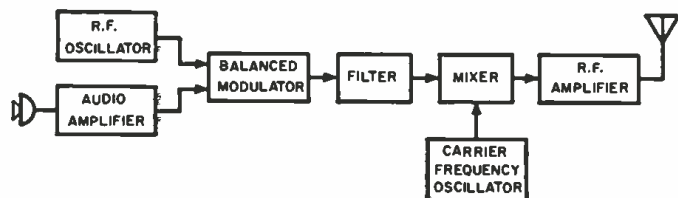
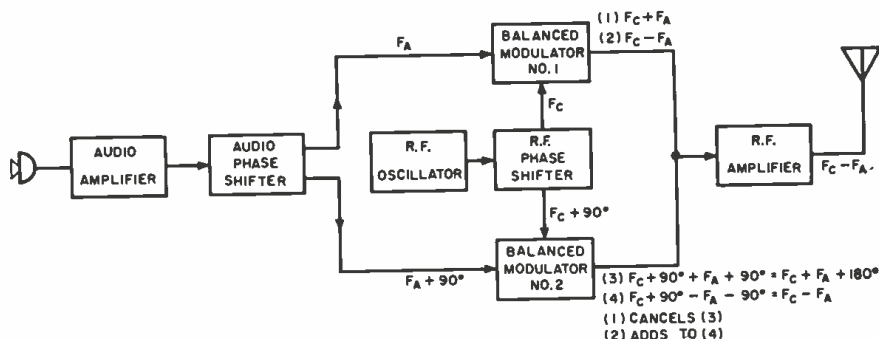

Fig. 6. Block diagram of the filter method used to suppress one of the two sidebands.
Fig. 7. Block diagram of sideband suppression by means of the phasing method.
A block diagram of the filter method is shown in Fig. 6. The balanced modulator functions the same as described in Part 1, and the output of the modulator consists of the two sidebands produced as a result of modulation, the carrier having been suppressed. The filter eliminates either sideband, so that only the other sideband appears in the filter output.
As shown in Fig. 6 another oscillator is used, this one producing the actual
The second method used for sideband suppression, illustrated in Fig. 7, eliminates the need for mixing stages as used in Fig. 6. It is known as the "phasing method" and suppresses both the carrier and one sideband simultaneously.
Into balanced modulator No. 1 are fed both the audio and the r.f. in their original phases. Balanced modulator No. 2 is supplied the phase-shifted audio and r.f. signals. By the process already described, each balanced modulator removes the r.f. carrier and produces two sideband frequencies in its output. These signals can be analyzed by using  $F_c$  for the carrier frequency and  $F_a$  for the audio, as shown in Fig. 7. The phase-shifted components are labeled  $F_c + 90^\circ$  and  $F_a + 90^\circ$ .
In the output of circuit No. 1 the two sidebands are  $F_c + F_a$  and  $F_c - F_a$ . From No. 2 one sideband is  $F_c + 90^\circ + F_a + 90^\circ$ , which is equal to  $F_c + F_a + 180^\circ$ . The other output is  $F_c + 90^\circ - F_a - 90^\circ$ , or  $F_c - F_a$ . These four outputs are labeled in Fig. 7 in the order listed here. Outputs (1) and (3) are identical except that they are 180° out-of-phase, therefore they cancel. Outputs (2) and (4) are identical, and thus reinforce each other. This is the  $F_c - F_a$  signal and it is then amplified before being transmitted.